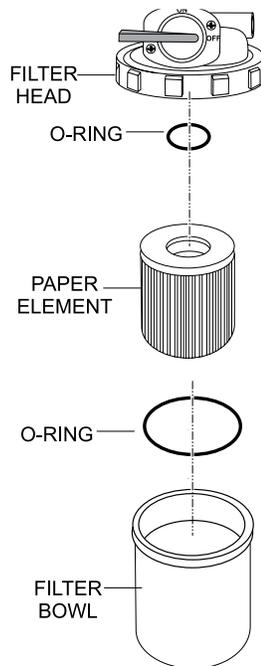

Figure 30. Fuel Filter Disassembly
3. Unscrew the filter bowl (Figure 30) from the fuel filter head.
1. Unscrew the filter bowl from the fuel filter head (Figure 30).